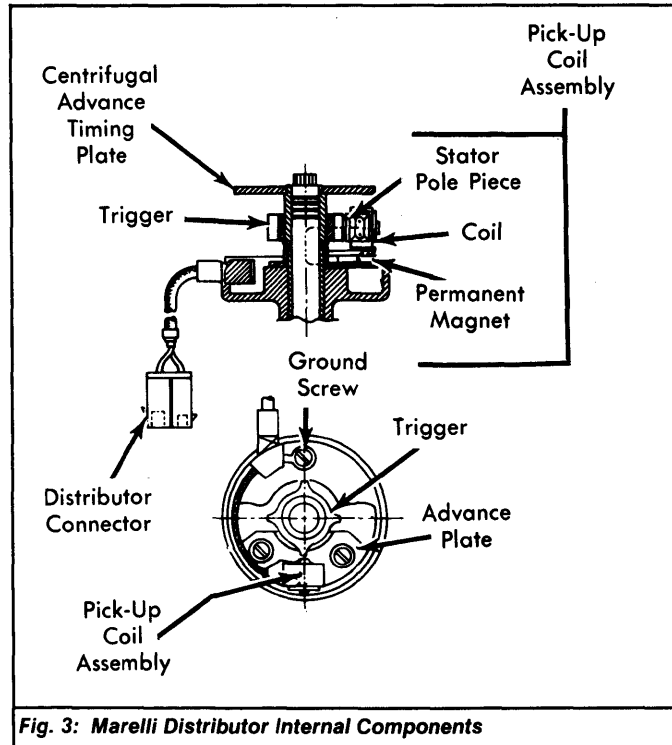

Fig. 3: Marelli Distributor Internal Components
2) Pick-up coil resistance should be 700-800 ohms. If not, replace pick-up coil assembly. If system works intermittently, be sure pick-up coil wire in distributor is properly grounded. See Fig. 3.